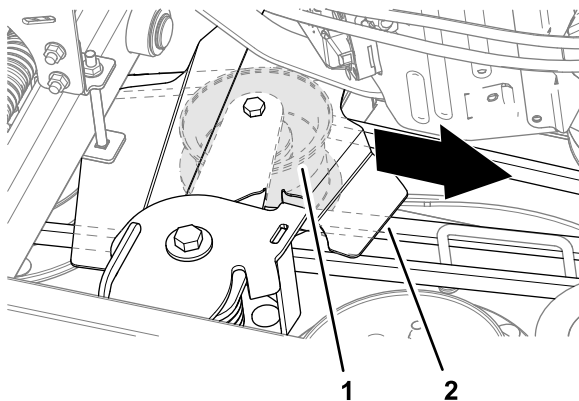

Figure 77
6. Pull the idler pulley and idler-pulley cover toward the engine and slip the belt off the pulleys (Figure 77).